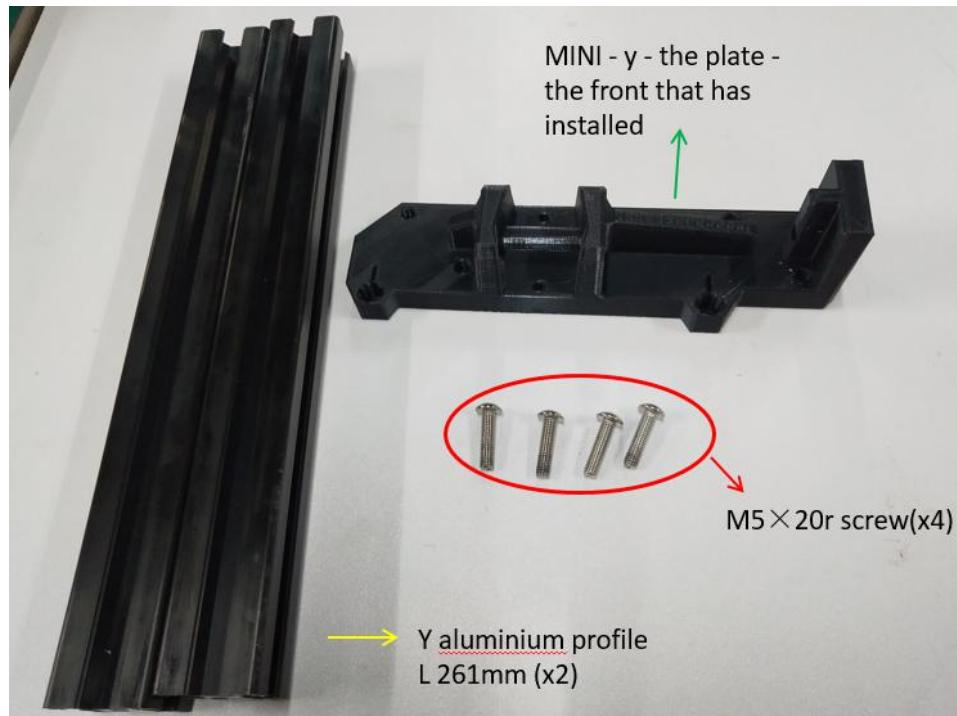

Figure 1.4.1
**Step 1-4-1:** As shown in Figure 1.4.1, prepare the materials and check whether the quantity of materials is correct, and prepare for the next installation.